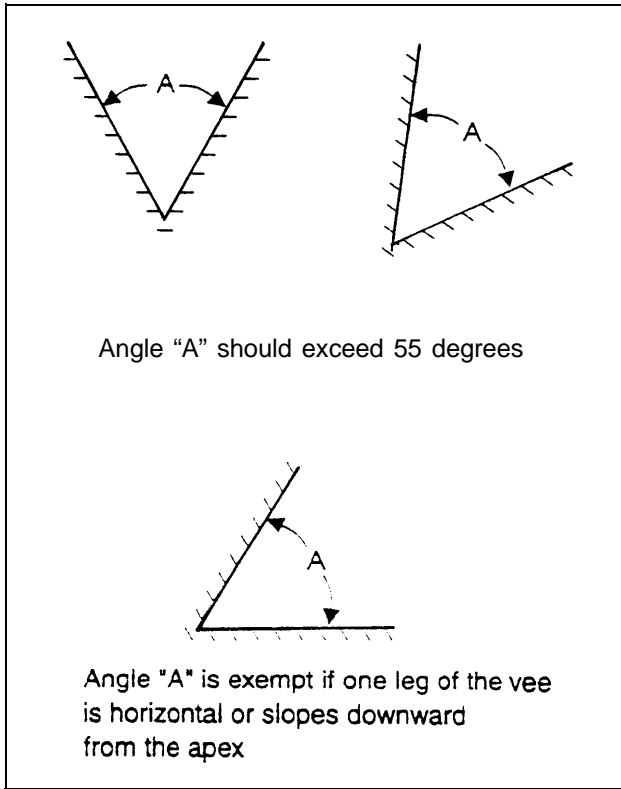

Figure 4-8: Recommendations for angles.
f. *Angular Openings.* Angles may be formed by adjacent intersecting surfaces or by surfaces that would intersect if projected. All angles formed by the surfaces of an opening should be at least 55° (fig 4-8). The head probe will be used to inspect angular openings for potential head and neck entrapments.
(2) *Inspecting inverted angles.* An angle is inverted if the lower edge of the angle is horizontal or slopes downward (fig 4-8). An inverted angle cannot entrap the head or neck, and is exempt from requirements for angular openings.